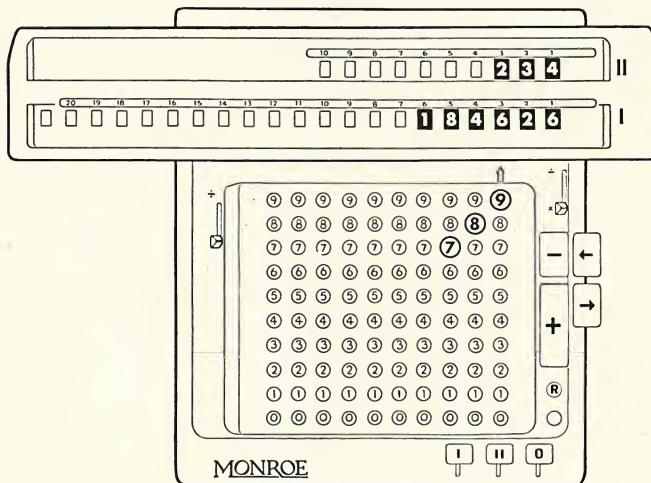

Figure 5
**Step 3**—The machine now reads as in Figure 5: upper dials 234, the multiplier; keyboard (keys depressed) 789, the multiplicand; lower dials 184626, the result. This is complete and positive proof of accuracy. The only further proof required is a visual check of the 234 and the 789 in the machine against the two factors of the problem. If they agree the result must be correct.
At the completion of the previous problem (Figure 5), the machine reads 789 on the keyboard, 234 in the upper dials, and 184626, the result, in the lower dials. Supposing the 789 is a constant multiplicand and the operator